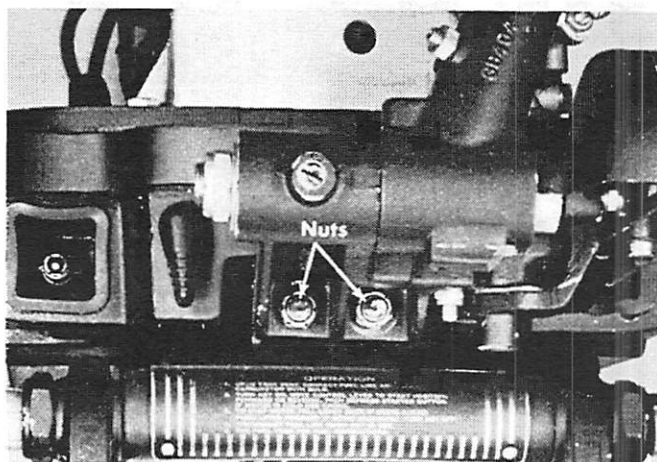

Figure 4. Handle Assembly Installed
3. Insert throttle and shift link rods thru opening in left side of cowl and place handle assembly in position on engine steering lever. (Figure 4)
4. Secure handle assembly to engine steering lever with 2 nuts and tighten nuts securely. (Figure 4)